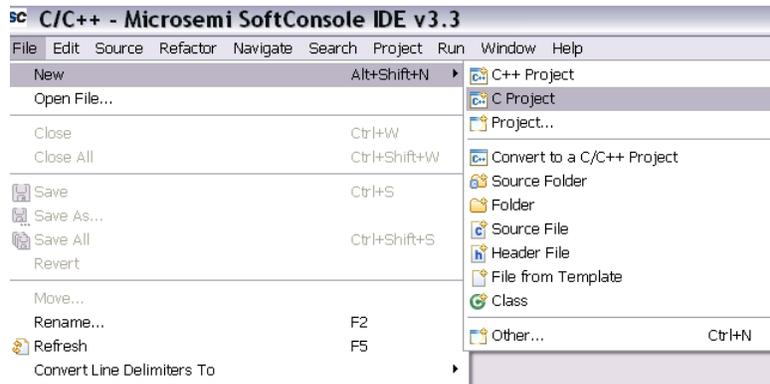

Figure 16 Creating New C Project
- Go to **File → New → C project**, as shown in Figure 16.